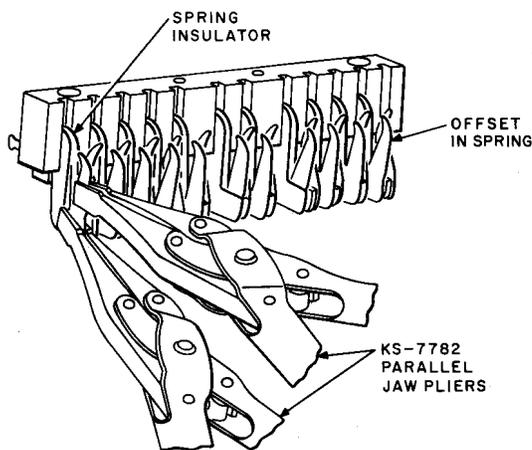
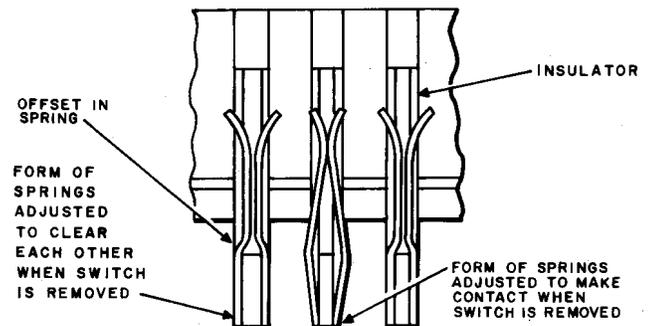

Fig. 19—Method of Adjusting Springs to Make Contact With the Switch Removed From the Shelf
Fig. 20—Method of Obtaining Clearance or Contact Between a Pair of Shelf Jack Springs
- (1) Adjust the clearance between the springs with the KS-7782 pliers applied to the springs just above the offset.
- (2) Adjust the springs to make contact and to follow within the specified limits with two pairs of pliers applied to the spring as shown in Fig. 19. Grasp the spring just below the offset with one pair of pliers to hold it stationary and then adjust the upper portion of the spring toward its mate with the other pair of pliers applied to the spring just above the offset. Adjust the opposing spring of the pair in the same manner so, when finally adjusted, a vertical line through the line of contact of the two springs will coincide with the approximate center of the spring insulator. The form of the springs under this condition should be as shown in Fig. 20.